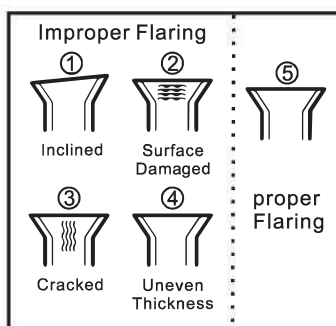

Fig. 7
- Flare the pipes. Insert the pipe outlet into the copper nut before flaring the pipe. Ensure that the hole is flat with sound surface and even thickness. (Fig. 7)